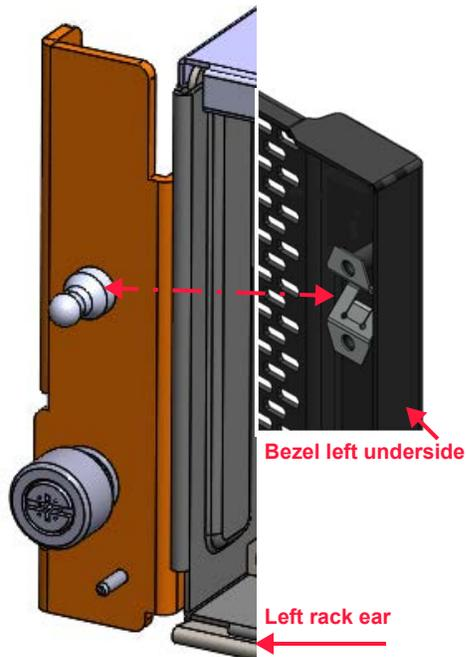

Figure 4.24 Bezel installation
2. Push the bezel into the right side of the right rack ear. The stud should join the retention clip inside the right side of the bezel cover (see Figure 4.24).
NOTE: Only the left side rack ear and bezel underside are shown in Figure 4.24. The right side is a mirror image of the left.